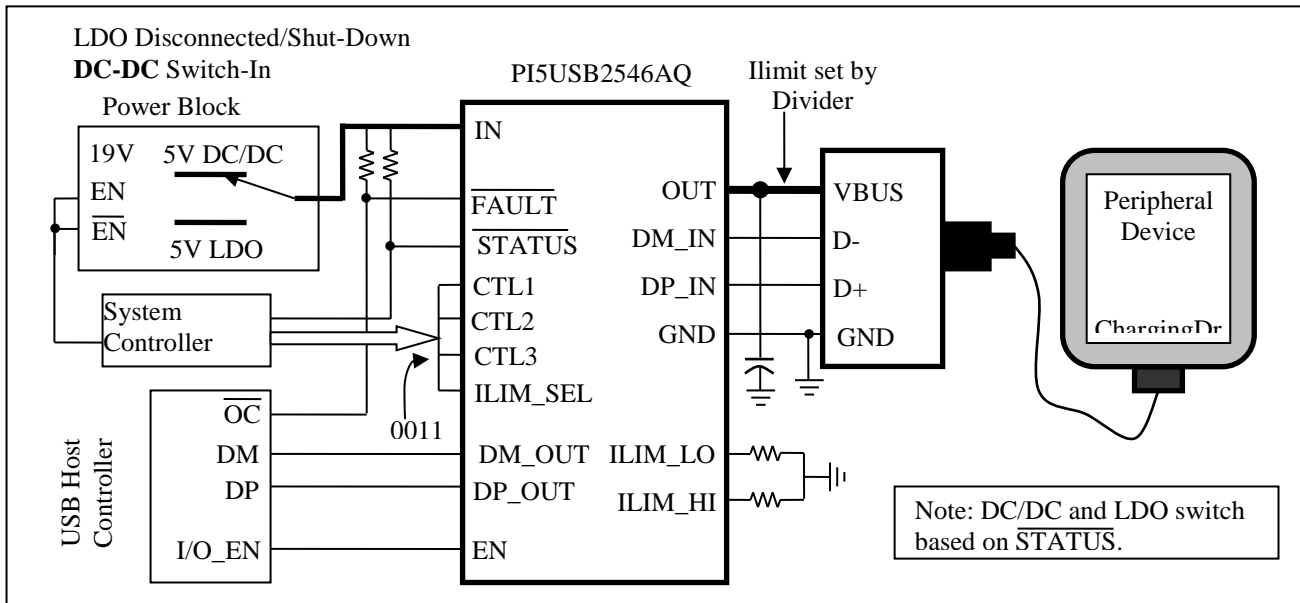

Figure 7, Case 1: System in S4/S5, Device Charging
Following Power Wake flow chart when a device is attached and draws >55mA of charging current the PI5USB2546AQ will hit its internal current limit. This will trigger the device to assert /STATUS (LO) and turn on the DC-DC converter and turn off the LDO. PI5USB2546AQ will discharge OUT for >2s (typ.) to allow the main power supply to turn on. After the discharge the device will turn back on with current limit set by ILIM_HI (Case 1, Figure 7)